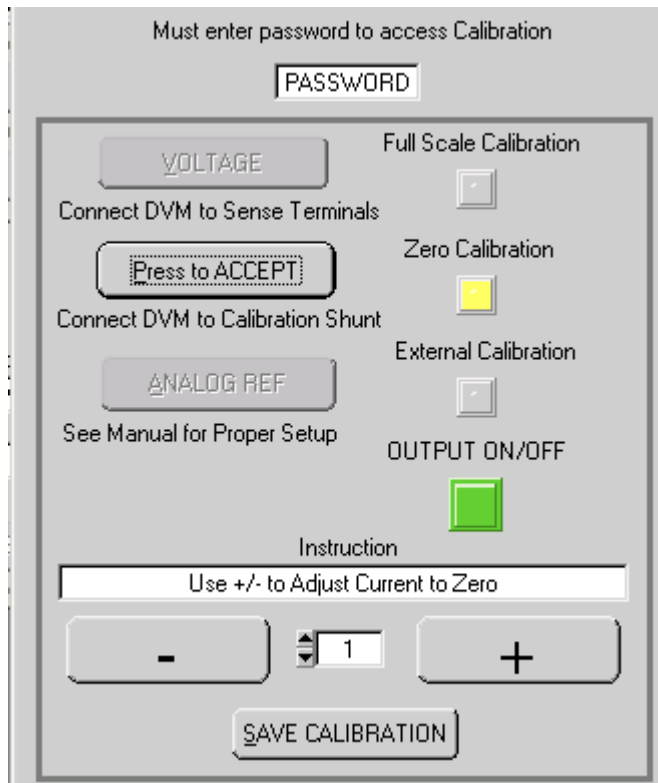

FIGURE 4-3. CURRENT CALIBRATION WINDOW
1. Click the **CURRENT** button on the Calibration Window to start current calibration; the Current Calibration Window (Figure 4-3) appears and the status display on the VXI main panel reads **C_{MAX}**.